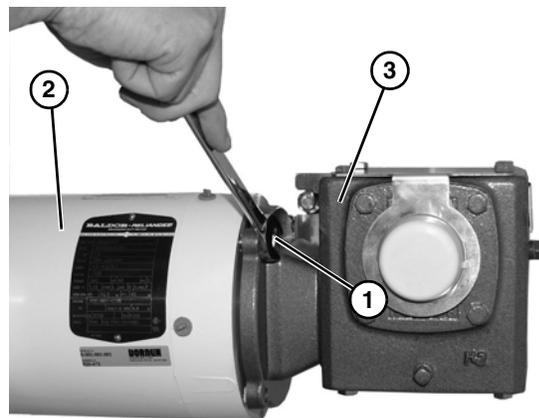

Figure 41
5. Remove four bolts (Figure 41, item 1) securing motor (Figure 41, item 2) to gear reducer (Figure 41, item 3).